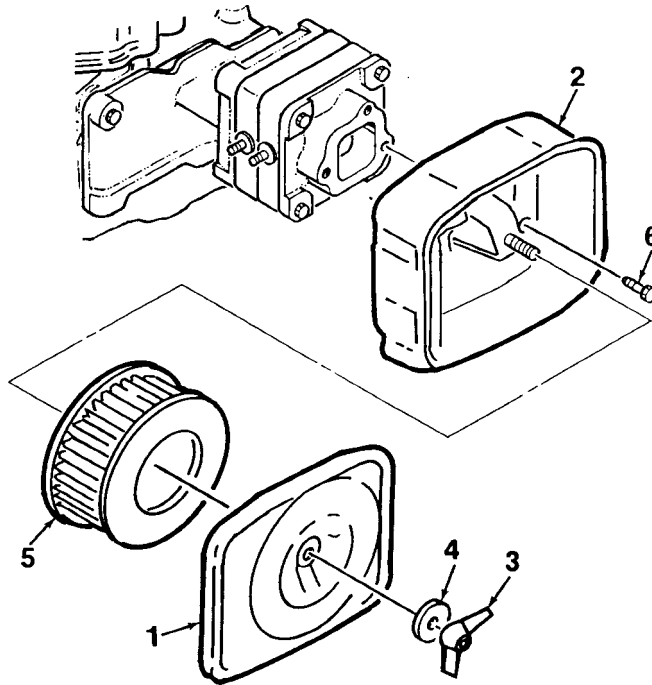

Figure 3-1. Air Filter Replacement
b. Remove cover (1, Figure 3-1) from air filter housing (2) by removing wing nut (3) and washer (4). Remove filter (5) from housing (2).
c. Install new filter (5) into housing (2). Install cover (1) onto housing using wing nut (3) and washer (4).